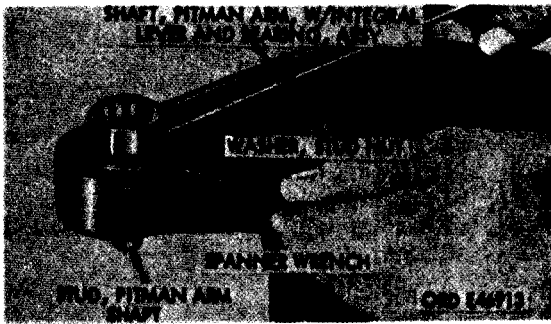

Figure 147. Adjusting roller bearings with stud assembly
- (3) Repair. Remove any raised metal or scratches with a fine mill file. The roller bearings should be preloaded at all times. Operation of a correctly adjusted unit may initially feel rough to the hands. However, under steering load, the unit will operate smoothly and have the load distributed, assuring normal service life. Adjust as outlined in (a) through (d) below.
- (a) Straighten out prong of stud nut washer (fig. 147). Replace old washer if new washer is available. If old washer must be used, break off bent prong to prevent using that prong at assembly.
- (b) Tighten nut as required. Hold stud from turning by using a spanner wrench (fig. 147) on washer, or by clamping stud; do not nick or burr stud surface. Used or replacement units should be set at a minimum of 3 lb.-in. torque. Turn stud back and forth and test adjustment.